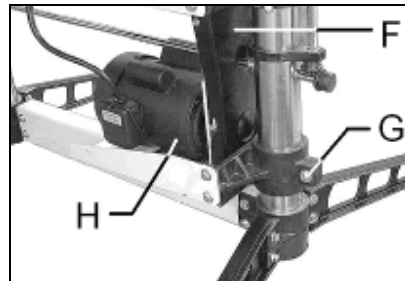

Fig 24
Loosen the pinch-bolt (G, Fig 24) and lower the motor (H) by its own weight only.